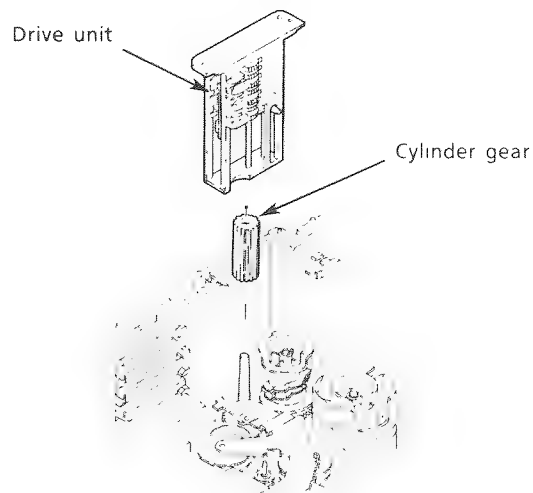

Fig. 42
3. Remove the drive unit and cylinder gear. (See Fig. 42.)